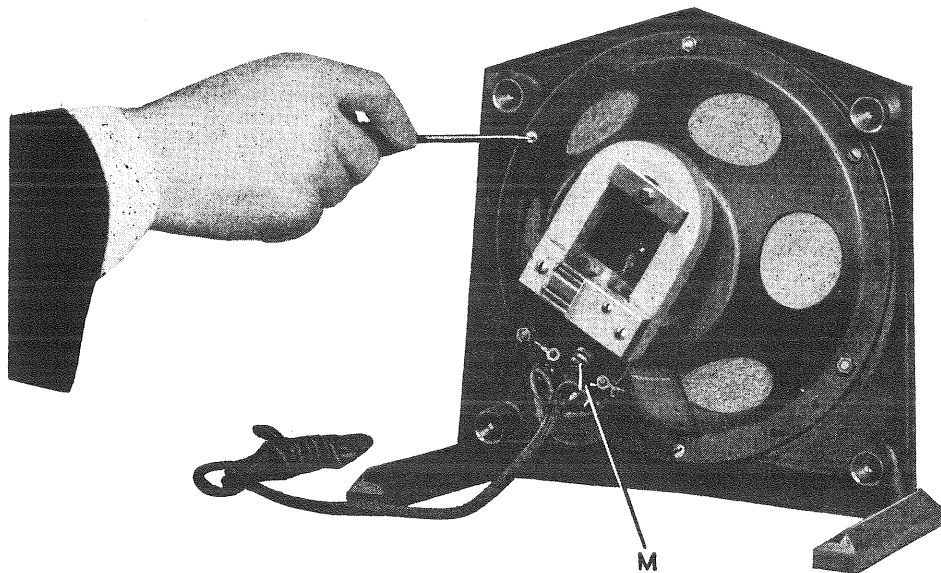

Figure 11—Removing mechanism from front of housing
- (b) Remove the three screws that hold the mechanism to the front of the housing. (See Figure 11.) Be careful to support the assembly so that it will not fall and become damaged.
- (c) Remove the filter unit mounting nut and washer and the nut and washer on the opposite end of the filter unit. (See Figure 11.) The unit may now be removed and replaced by a new one.